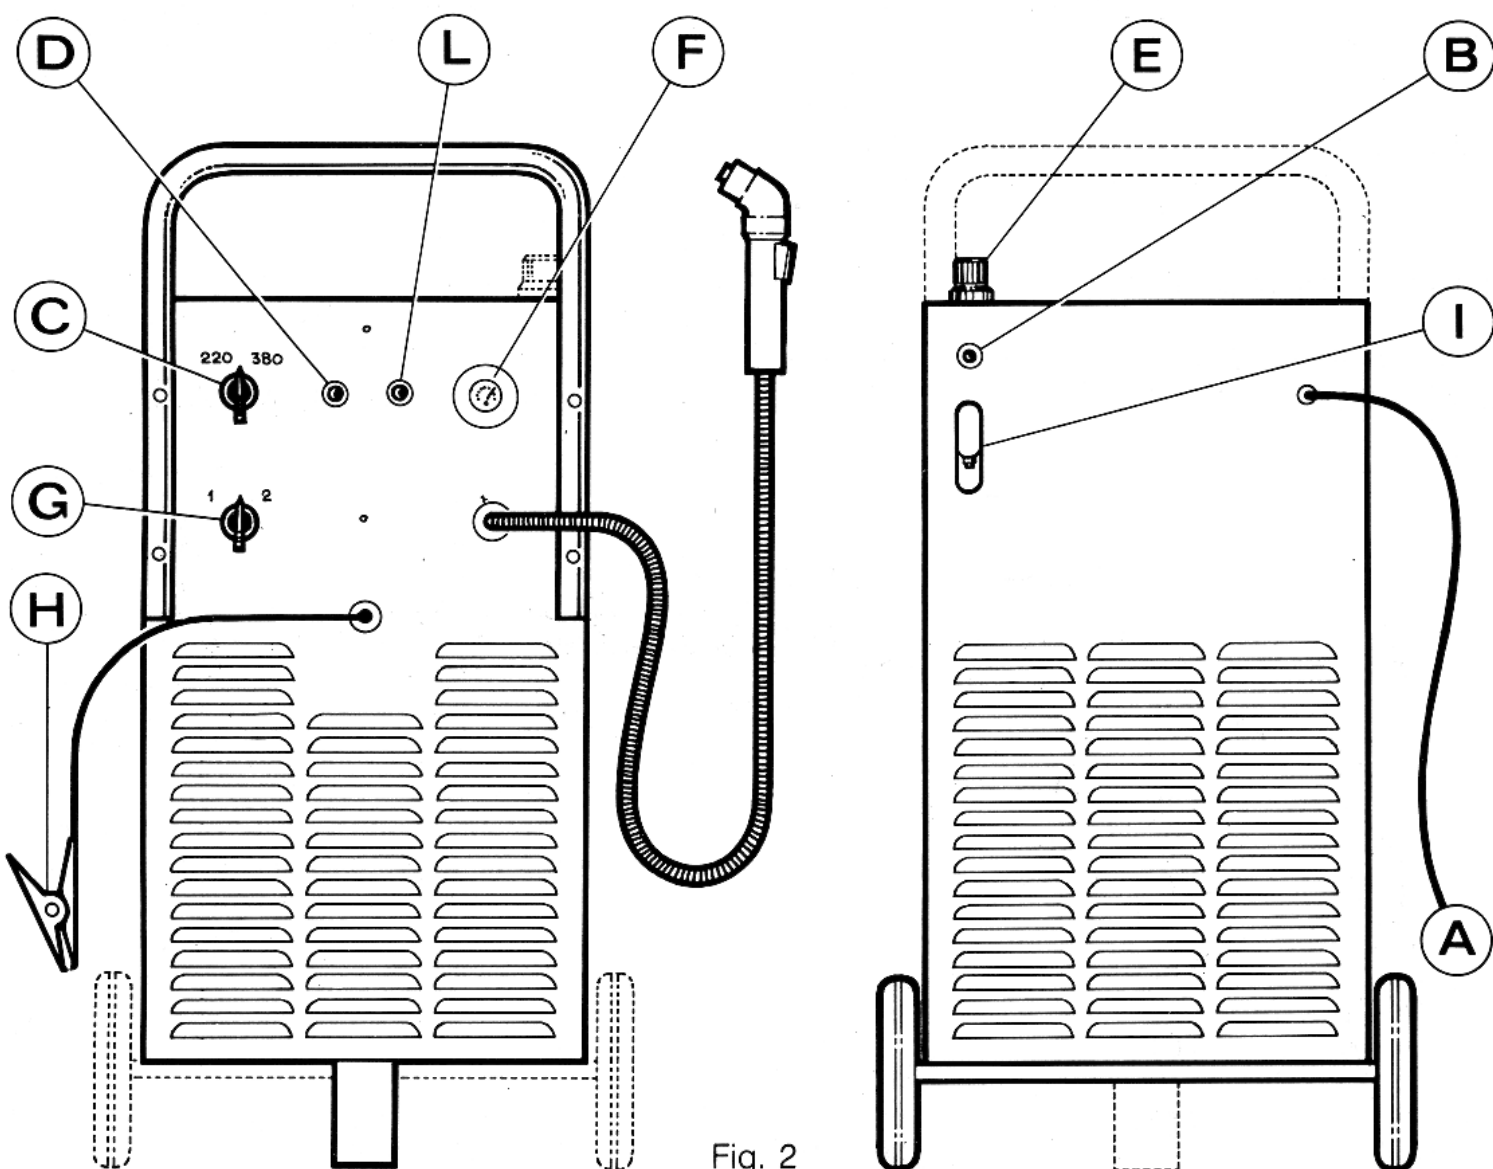

Fig. 2
**Pneumatic:** located on torch feed to avoid insufficient air pressure and signalled by display light **L** (fig. 2).
- dial **G** (fig. 2) on **1** instead of **2**;
Although the equipment is provided with an automatic device for the discharge of condensate, which functions whenever air feed is shut off, it is recommended that periodical checks of the container visible through slot **I** (fig. 2) be carried out to ensure the absence of any trace of condensate.